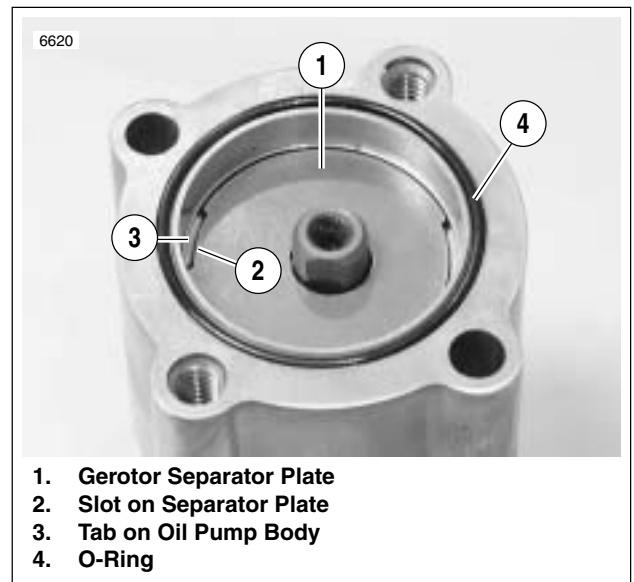

Figure 3-57. Separator Plate Slots
2. Insert inner gerotor of the gerotor scavenge set (9) over gear shaft.
3. Place outer gerotor over inner gerotor to complete scavenge set (9).
4. See Figure 3-57. Install gerotor separator plate (1) by lining up slots (2) on perimeter with tabs (3) inside oil pump body.
5. Install a **new** O-ring (4) into groove in pump body.